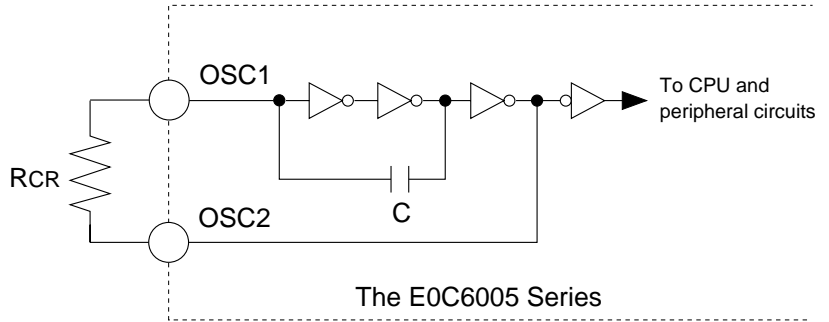

Fig. 4.2.2
For the E0C6005 Series, CR oscillation circuit (typ. 65 kHz) may be selected by a mask option. Figure 4.2.2 is the block diagram of the CR oscillation circuit.
As Figure 4.2.2 indicates, the CR oscillation circuit can be configured simply by connecting the register (RCR) between pins OSC1 and OSC2 since capacity (C) is built-in. See Chapter 6, "ELECTRICAL CHARACTERISTICS" for RCR value.